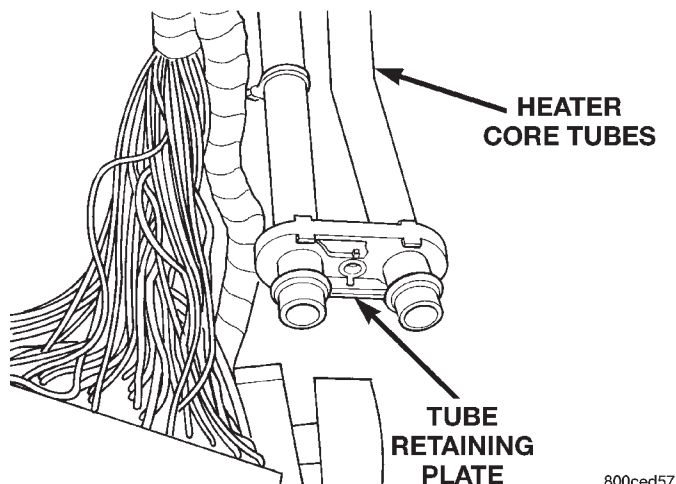

Fig. 34 Heater Core Plate And Tubes
- (8) Remove heater core cover. Insert a small amount of towels under the heater core tubes. Remove heater core plate and tubes (Fig. 34).